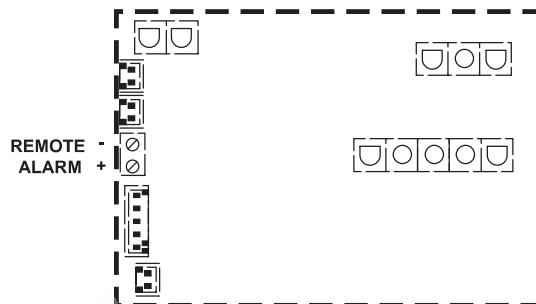

Figure 22
3. Connect the alarm circuit to the terminal blocks (See Figure 22).